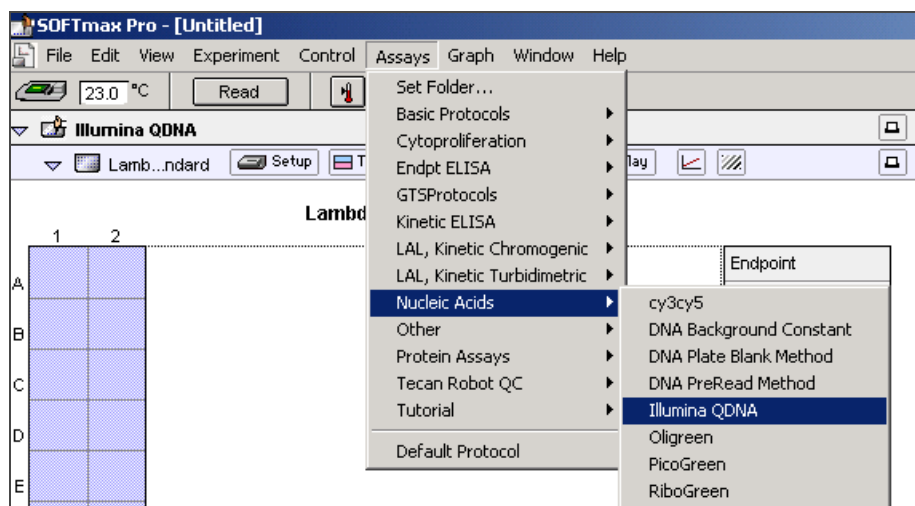

Figure 16 Load the Illumina QDNA Protocol in SoftMax Pro
3. Select **Assays | Nucleic Acids | Illumina QDNA** (Figure 16).